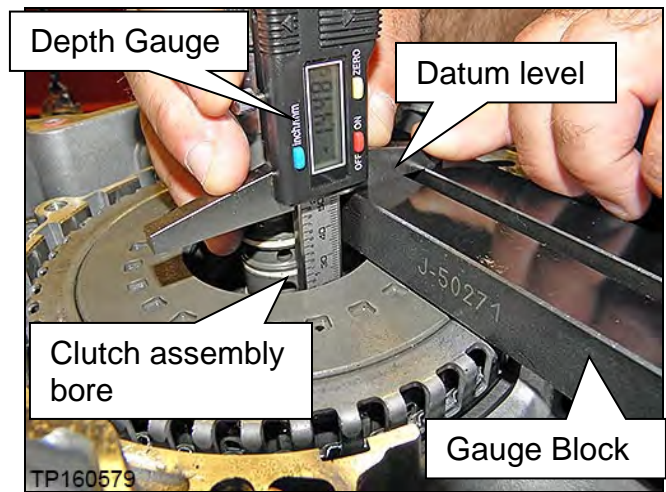

Figure 5G
- c. Position the Depth Gauge on the Gauge Block (Figure 5G).